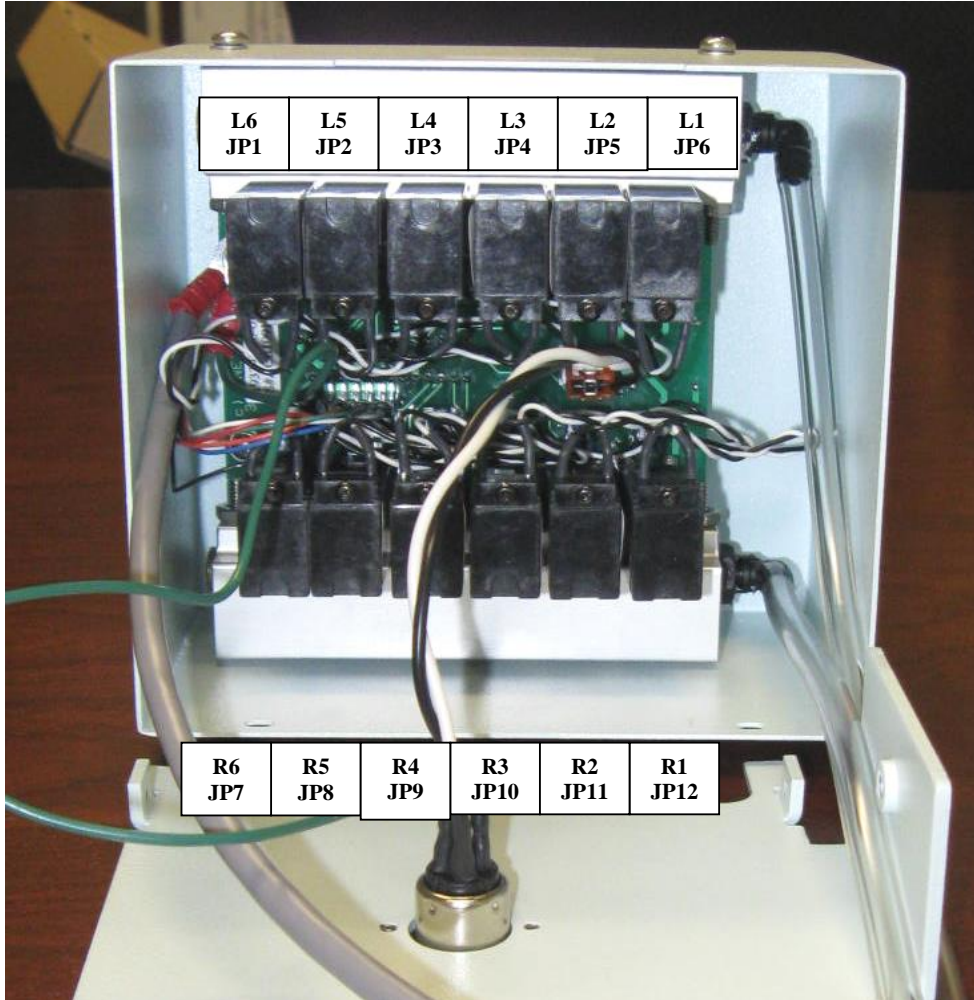

Figure 11
- 5.2. Attach the (12) .100" 2 pin housings from the left and right manifolds to the PC Board Ass'y at JP1 through JP12 (Figure 11).